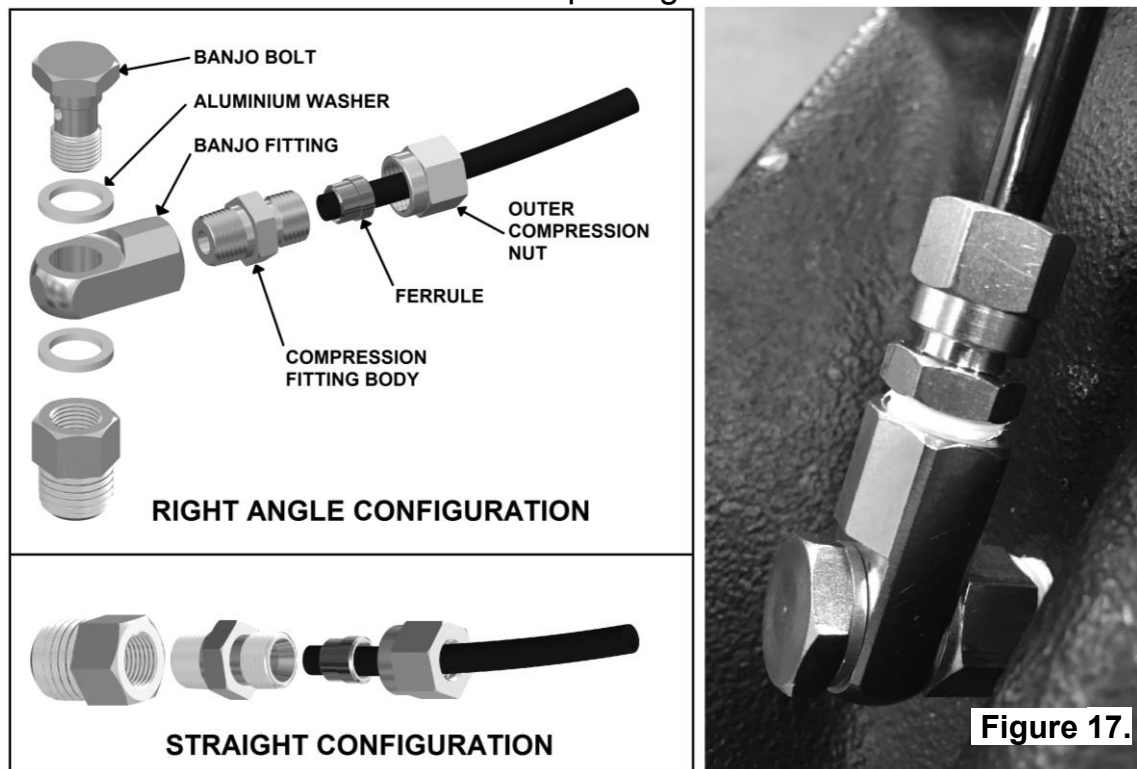

Figure 17.
- Assemble an aluminium washer onto the banjo bolt and insert through the banjo fitting. Assemble second aluminium washer and tighten into bulkhead fitting using a 14mm [9/16"] spanner. (Fig.17.)
- Insert the outer compression nut and ferrule over the air line. Ferrule should be orientated as per Fig.17.